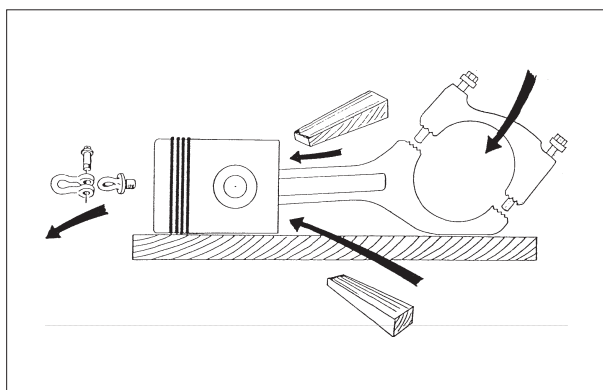

Fig. 1. L28/32H
1) Land the piston and connecting rod carefully on wooden support to prevent damage of piston and scraper ring, see fig. 1 or 2.
2) The bearing cap should be mounted with the screws tightened only by hand, in order to protect the serrated joint faces during handling of the assembly, see fig. 1 or 2.
3) Remove the shackle and eye screw/lifting tool from the piston crown, see fig. 1 or 2.